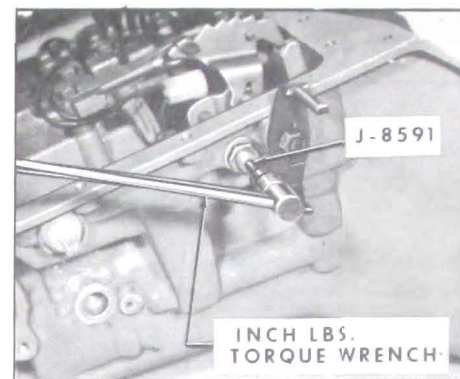

Figure 5-323
1. Adjust low band by first tightening adjusting screw to 40 in. lbs. torque. See Figure 5-323.